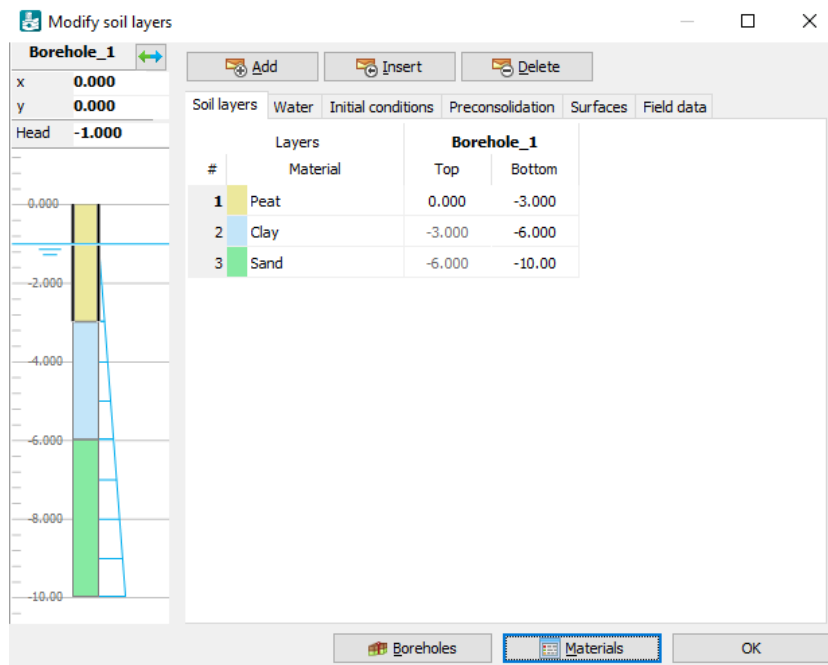

Figure 6–2: Soil layer distribution
- 2 Define three soil layers as shown in Figure 6–2 \(p. 115\).